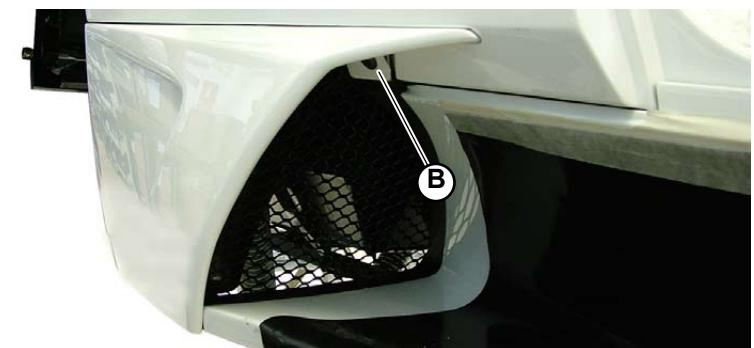

Fig.7
2. Unscrew the screw (B-Fig.7) securing the rear part of the side member to the side member itself.